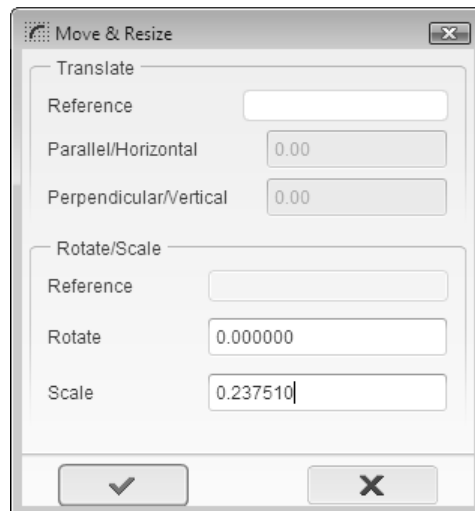

Figure 2-19 The Move & Resize dialog box
2. For inserting a sketch from the working directory tab into the sketch, double-click on the required sketch from the list in the dialog box; a + sign will be attached to the cursor. Click anywhere in the drawing area; the **Move & Resize** dialog box will be displayed, as shown in Figure 2-19. Also, the move, rotate, and scale handles will be displayed on the imported sketch automatically.